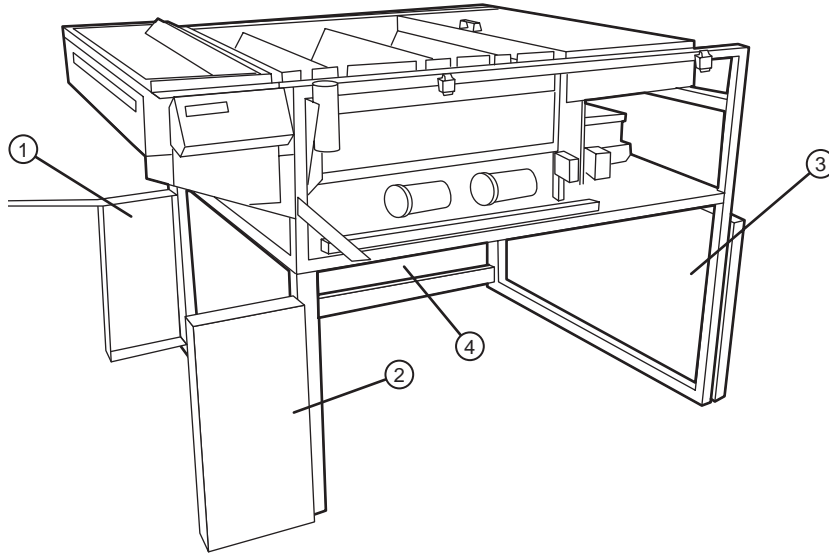

Figure 1-19 Front, rear and side panels.
1. Using phillips head screws and washers, attach the side covers (one [1] on each side) to the front of the OLP engine. Refer to Figure 1-19.
2. Attach the lower rear panel. Refer to Figure 1-19.
3. Attach the left side panel (bottom). Refer to Figure 1-19.